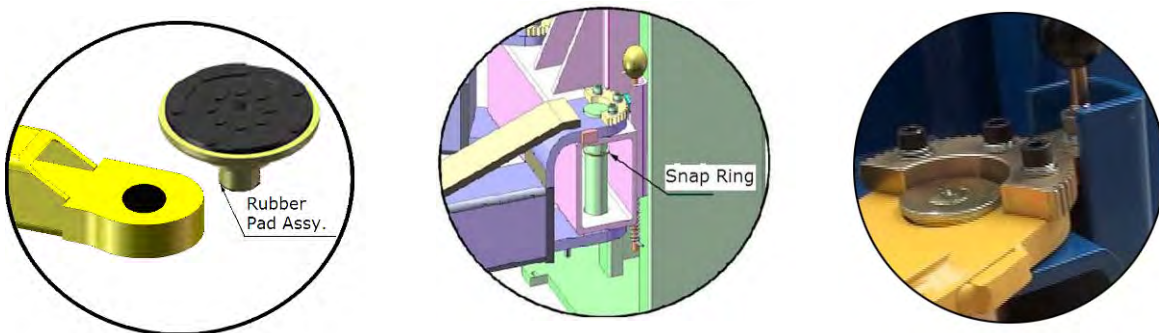

Fig. 24
N. Install Lifting Arms (See Fig. 24).